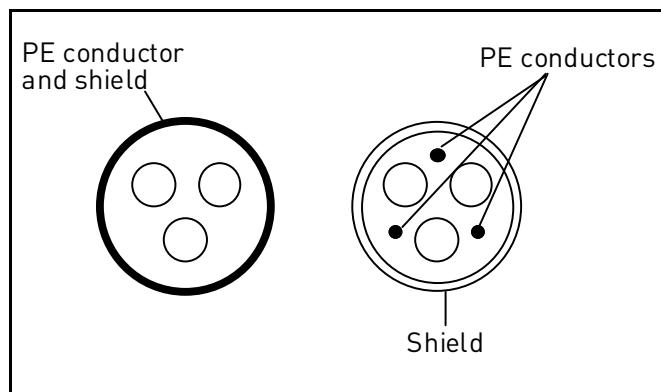

Figure 18.
- 2 = Symmetrical power cable equipped with concentric protection wire and intended for the specific mains voltage. (MCMK or similar recommended). See Figure 18.
3 = Symmetrical power cable equipped with compact low-impedance shield and intended for the specific mains voltage. [MCCMK, EMCCK or similar recommended; Recommended cable transfer impedance (1...30MHz) max. 100mohm/m]. See Figure 18.